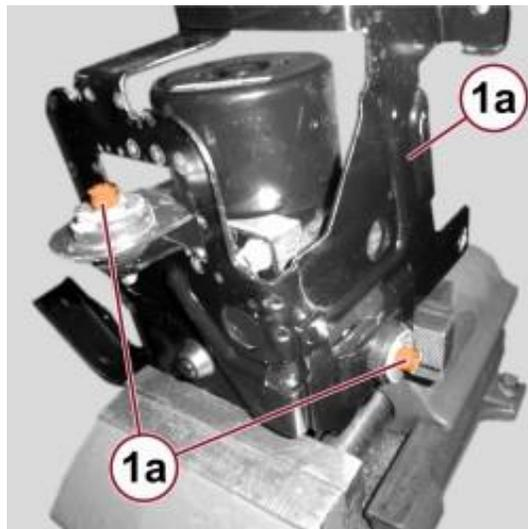

Figure 14 – ABS Control Unit
24. Off-vehicle, remove the screws (1a) then separate the control unit (1c) from the bracket (1b) (Figure 14).
1. Off-vehicle, fit the support bracket (1b) on the ABS control unit (1c) and tighten the screws (1a) (Figure 14).